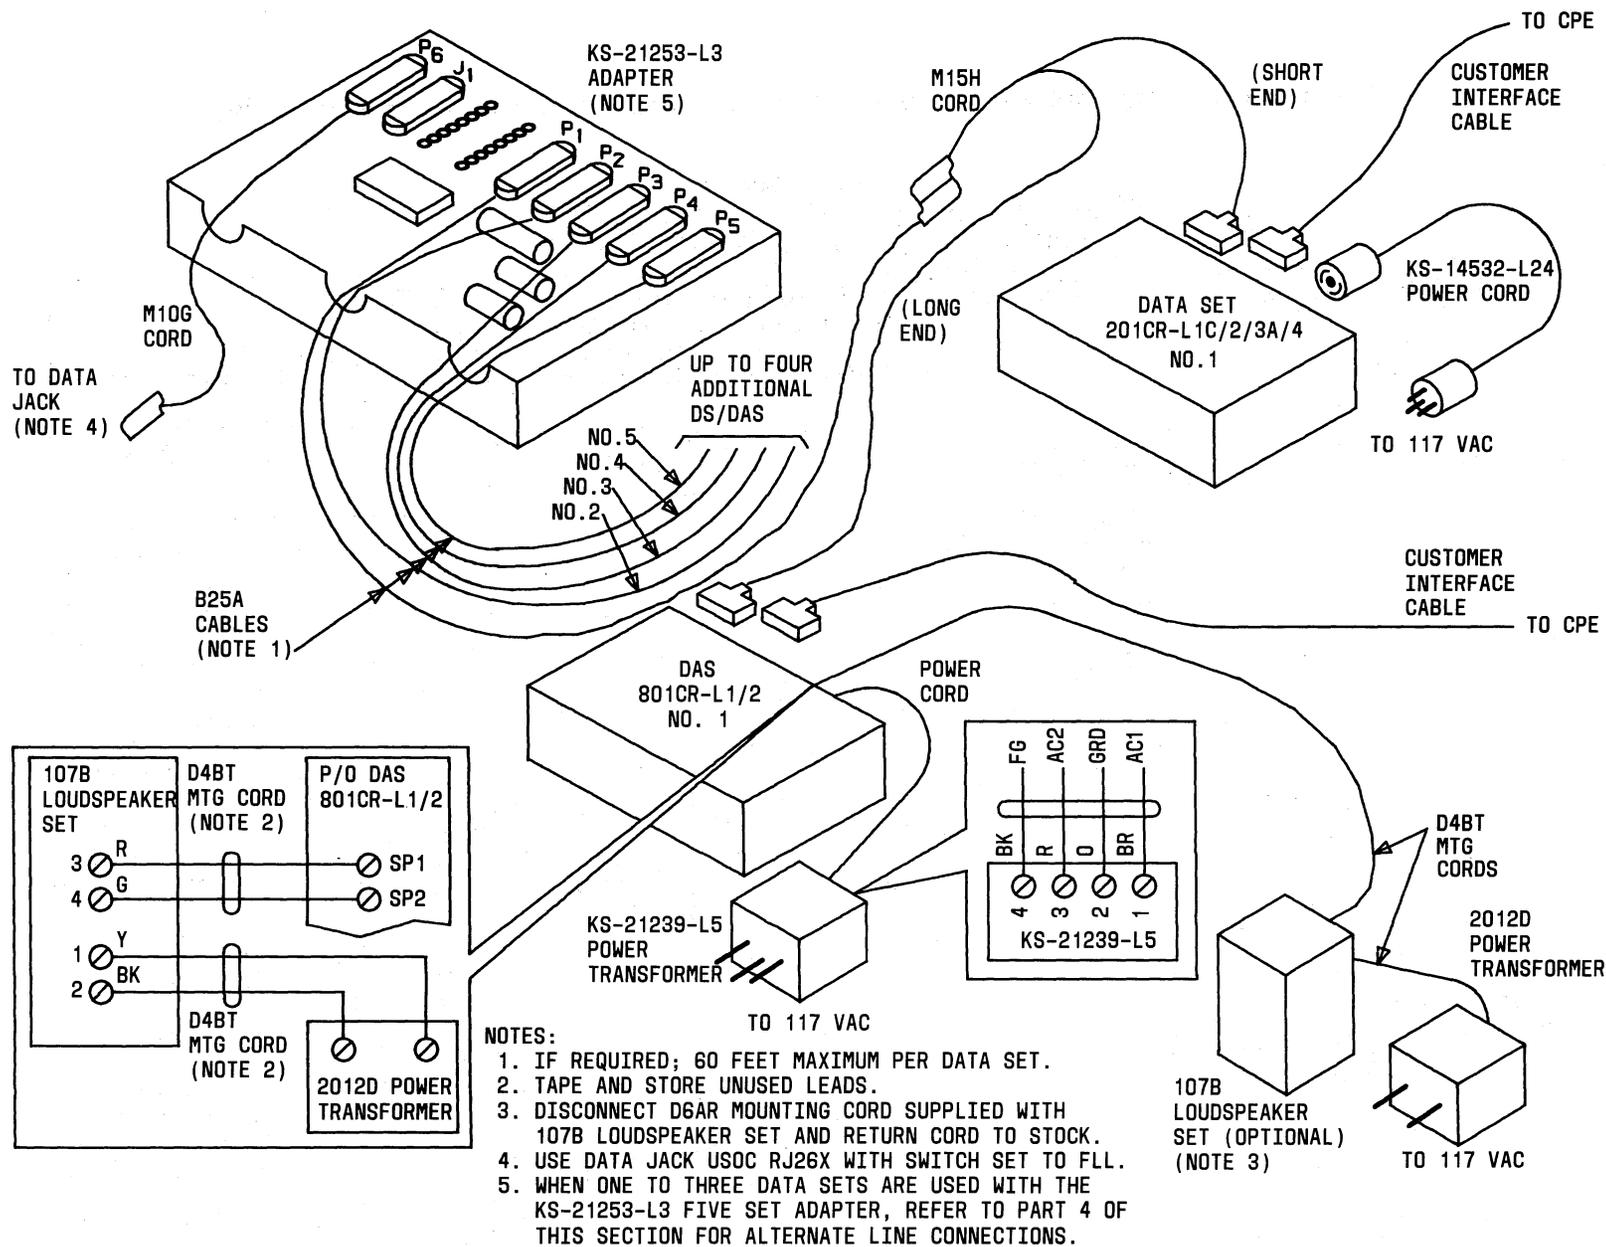

Fig. 12—One to Five Single Data Sets With ACUs—Connection Diagram
- M10G cord (1)
- KS-21253-L3 adapter (1)
- 565HKM or 2565HKM telephone set (1)
- M4AS cord (1)—optional (used for common ringer)
- 248A adapter (1)—optional (used for common ringer)
- 2012C transformer (1)—optional (used for common ringer).
4.10 *One to Five Single Data Sets With ACUs:* The connection diagram for this arrangement is Fig. 12.